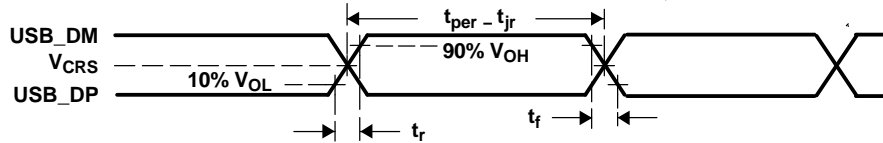

Figure 5-51. USB2.0 Integrated Transceiver Interface Timing
**Table 5-62. Switching Characteristics Over Recommended Operating Conditions for USB2.0 (see Figure 5-51)**
Table 5-62. Switching Characteristics Over Recommended Operating Conditions for USB2.0 (see Figure 5-51) (continued)